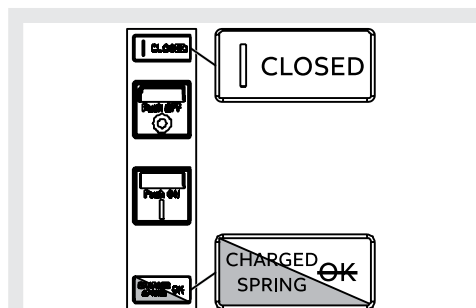

Figure 68
4. Circuit-breaker closed with springs charged and not ready to close (see Figure 68). This state occurs when after closing (see step 4 - Manual operations for opening and closing the circuit-breaker) the springs are recharged manually or automatically by the gearmotor (if provided).